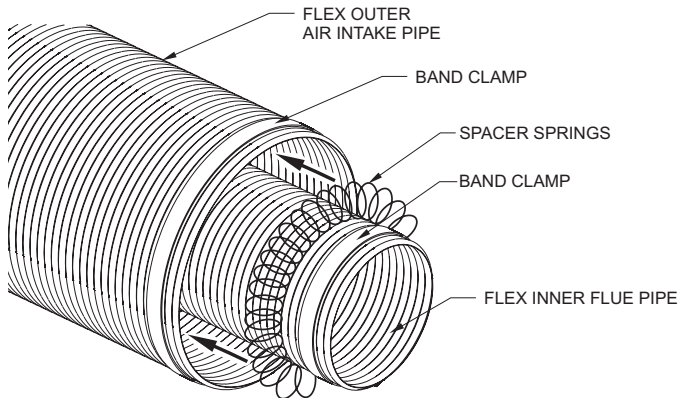

Figure 72
6. Locate the inner flex vent which has a pre-assembled flue collar connector and attach the spacer springs by interlocking the end of the springs about 2 inches. The springs should be spaced evenly apart starting at 12 inches from the fireplace flue collar. **See Figure 72.**